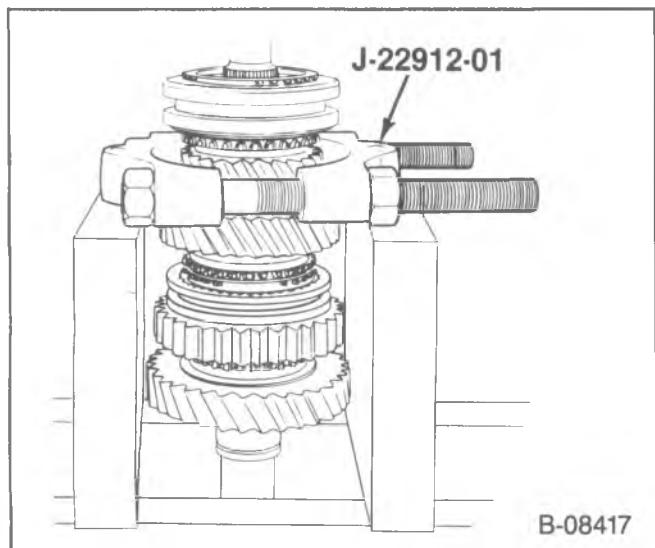

Figure 127—Removing the 3rd and 4th Synchronizer
1. Remove the 4th speed blocker ring (661).
2. 3rd and 4th synchronizer and the 3rd speed gear (664).
- Press the mainshaft through the synchronizer, the blocker ring and the gear using J-22912-01, (figure 127).